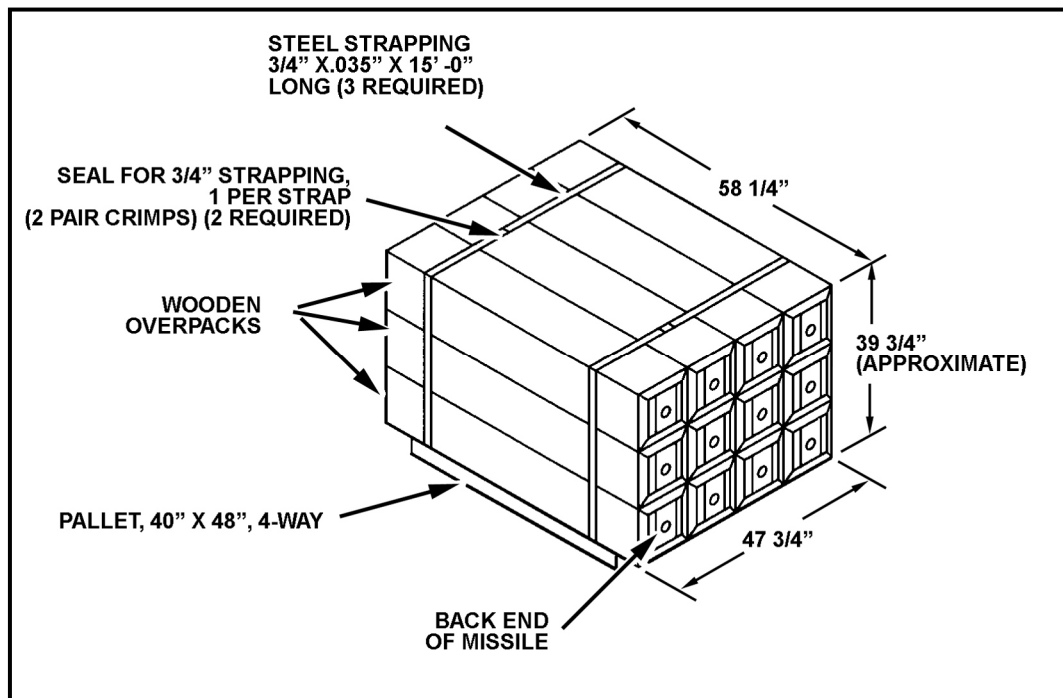

Figure 1-26. Palletized encased missiles.
b. **Storage.** Protect encased missiles from sun, rain, and moisture. Use at least 6 inches of dunnage under the wooden overpacks (Figure 1-26). Put waterproof cover over and around the stack of missiles. The shelter should be big enough to provide good air circulation. The shelter and encased missiles should be accessible, in good condition, and ready for immediate use.